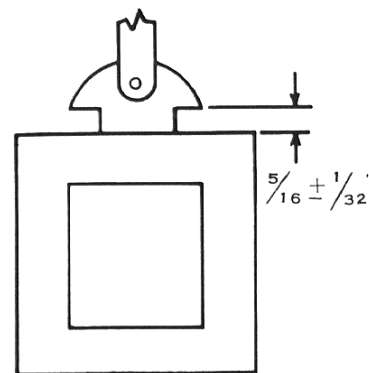

Fig. 50. Trip-solenoid armature
2. The trip-solenoid armature gap must be $5/16 \pm 1/32$ inch as measured in Fig. 50.